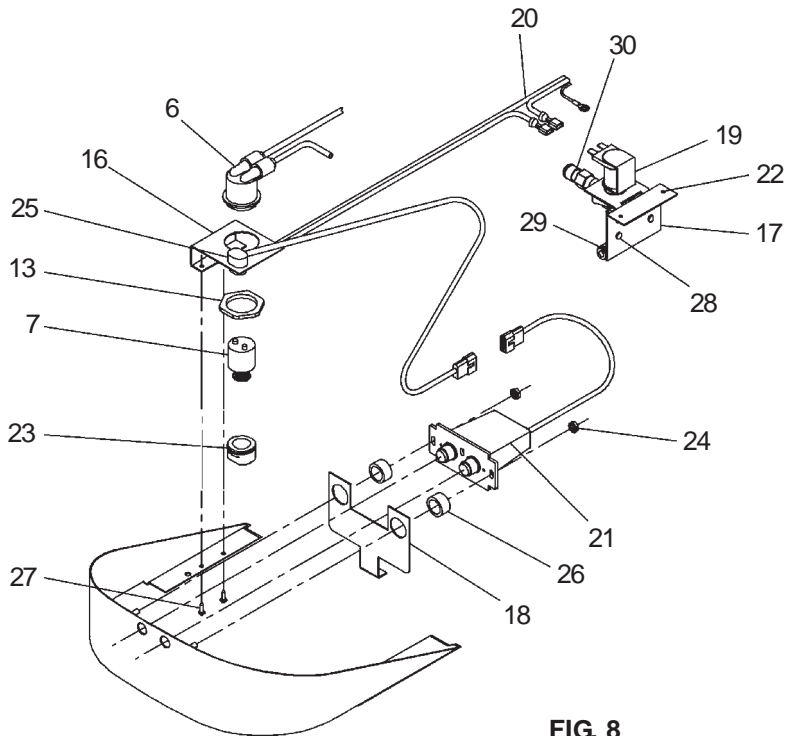

FIG. 8
8. Install fountain. Remove bottom cover plate on underside of fountain and save the screws. Mount the fountain to the upper panel and the wall frame with (4) 5/16" x 3/4" (19mm) long bolts and nuts (provided). Tighten securely.
11. Connect power cord of sensor to solenoid valve by running it through the back panel and connecting it as shown in Fig. 8. Connectors may be connected to either terminal on solenoid valve. Attach ground wire to solenoid valve bracket with green ground screw.
15. Check stream height from bubbler. Stream height is factory set at 35 PSI. If supply pressure varies greatly from this, remove item 11 (bottom cover plate) and adjust the screw on the regulator (item 7). Clockwise adjustment will raise stream height and counter-clockwise will lower stream height. For best adjustment stream height should hit basin approximately 6-1/2" (165mm) from the bubbler.
16. Mount lower panel. Loosen the (2) #10-24 x 5/8" (16mm) screws at frame bottom lip. Slide upper tongue of lower panel under lower edge of already installed upper panel. Tighten previously loosened screws securely.